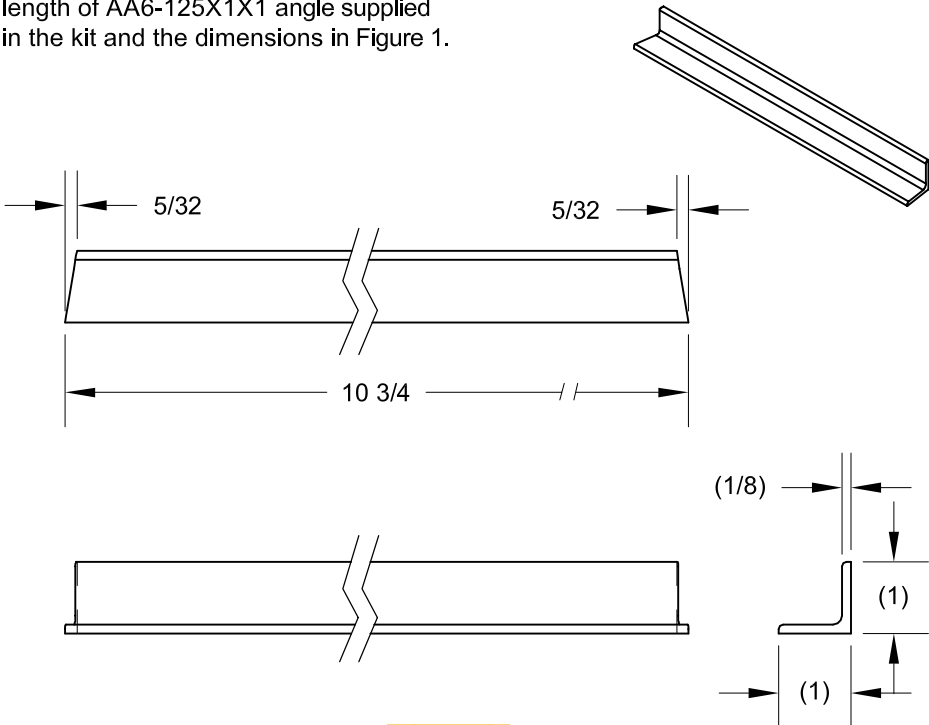

FIGURE 1: F-1010A HORIZONTAL STABILIZER ATTACHMENT ANGLE
Step 1: Make the **F-1010A** Horizontal Stabilizer Attachment Angle from the length of AA6-125X1X1 angle supplied in the kit and the dimensions in Figure 1.